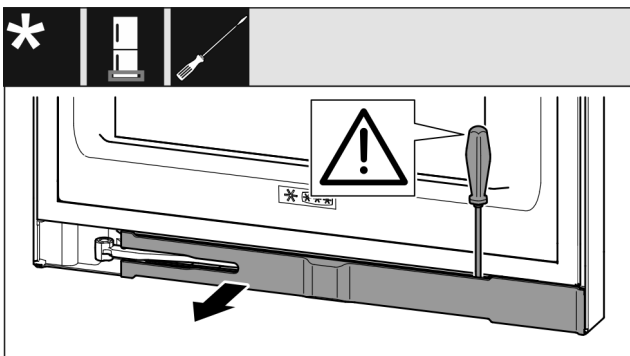

Fig. 14
- Use a slotted screwdriver to snap out the faceplate and swivel it to the side. (see *Fig. 14*)